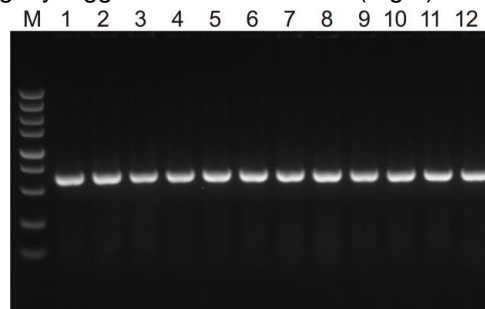

Fig 2. Agarose Gel Electrophoresis of Colony PCR Products
6.2 Pick several mono-colonies from the plate of recombination reaction for colony PCR with at least one common sequencing primer of the vector. If the colony is positive, there should be a band which length is slightly bigger than that of insert (Fig 2).